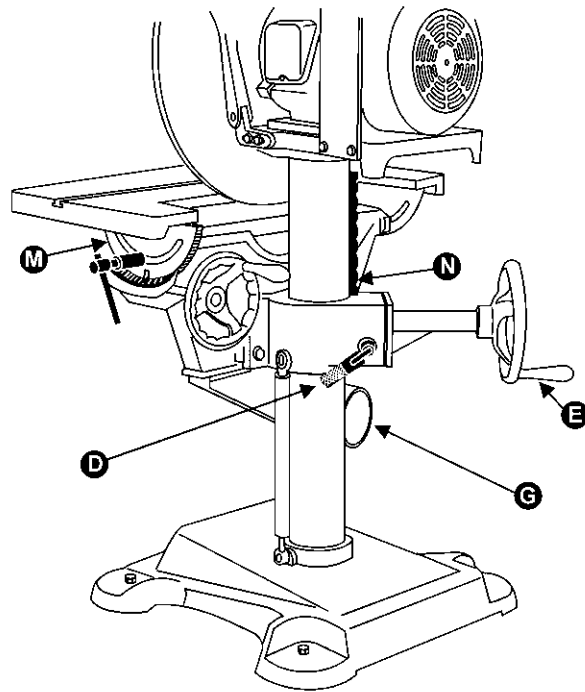

FIGURE 2
The working table can also be raised or lowered on the column, Figure 2. Loosen the knob (D) and adjust the table height with the handwheel (E). When satisfied, retighten knob (D).